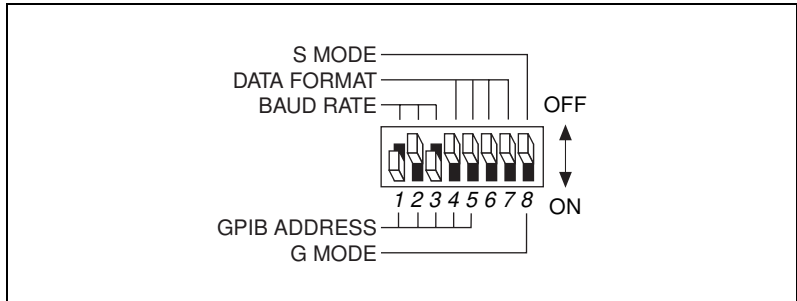

Figure I-2. Sample Switch Settings for an IBM PC and HP Plotter
2. Set the configuration switches on the GPIB-232/485CT-A. Figure I-2 shows how to configure the GPIB-232/485CT-A for the following characteristics: